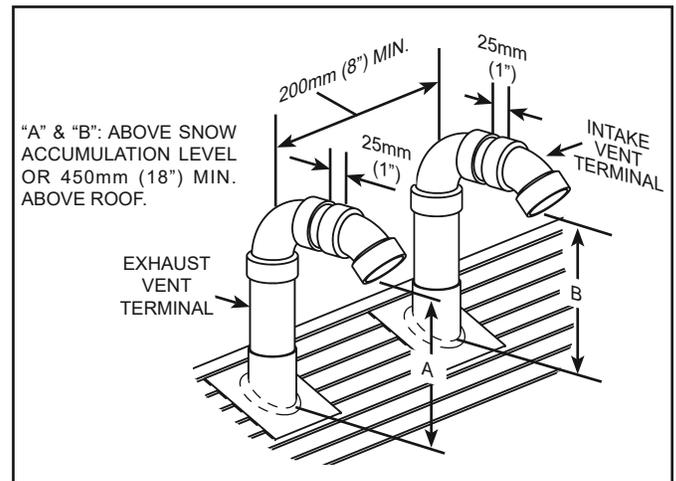

Figure 25.
**Important:** When terminating the vents through a roof, the following specifications pertaining to terminal location must be followed (see Figure 25).